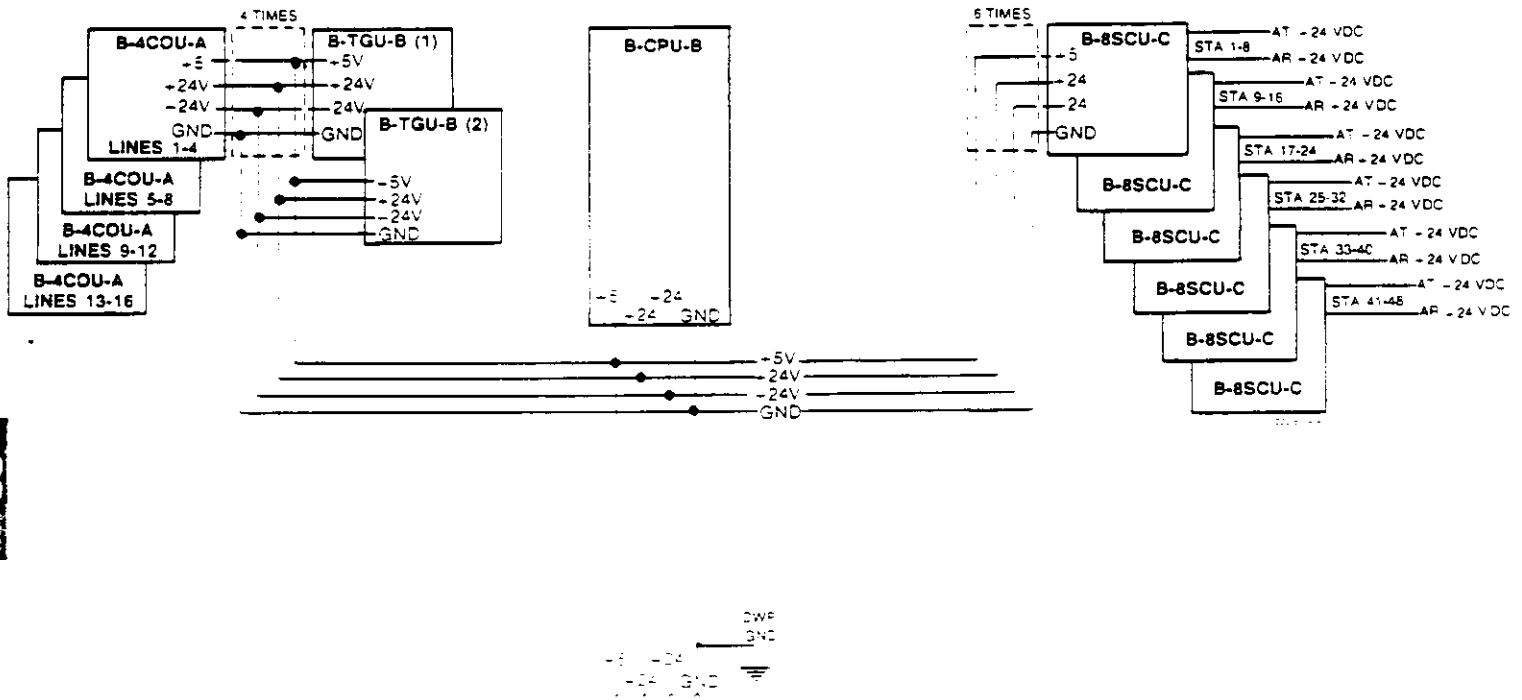

Figure 8-4 DC POWER DISTRIBUTION, EK-824/1232/1648
2.25 DC power for the common equipment PCBs (Figure 8-4) is provided by a separate convection cooled power supply. The power supply produces regulated voltages of +5 V DC, +24 V DC and -24 V DC. These voltages are connected in the KSU backplane to all the PCBs. Each PCB in the system uses additional on-board DC regulation to maximize circuit stability and reliability.